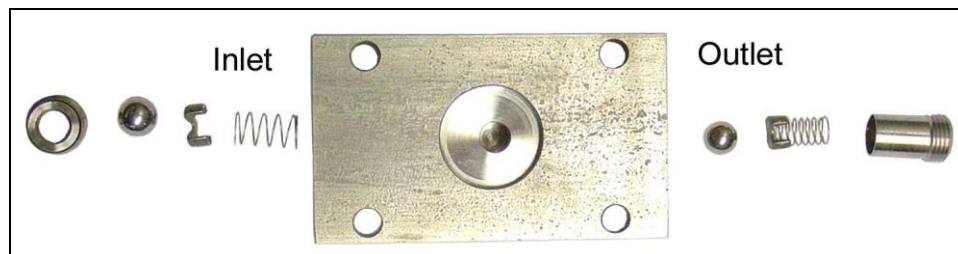

Figure 7
7. Remove the retainer (52) with an Allen Wrench. Remove the ball (49), ball guide (50), and spring (51).
8. Remove check valve seat (42) with Allen wrench, remove ball (45), ball guide (46), and spring (47). See Figure 7.